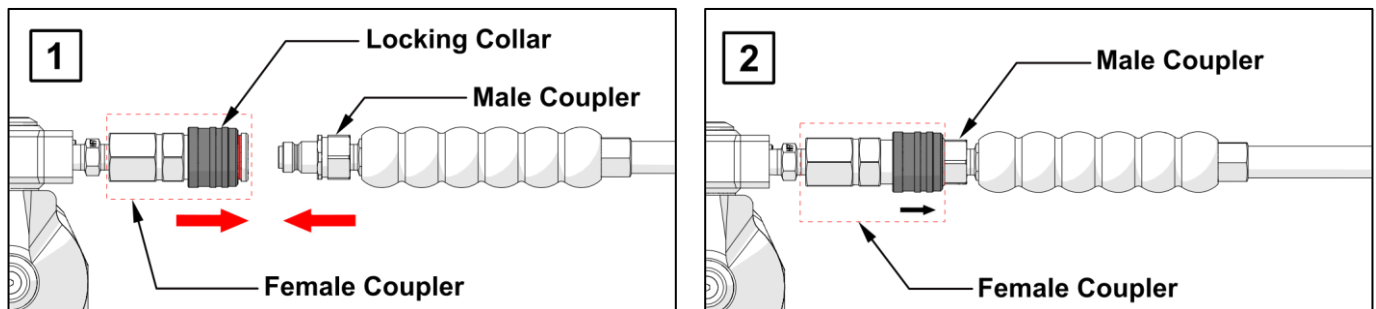

Figure 5.1: Hydraulic Connections
5.3.1 Connections (See figure 5.1)